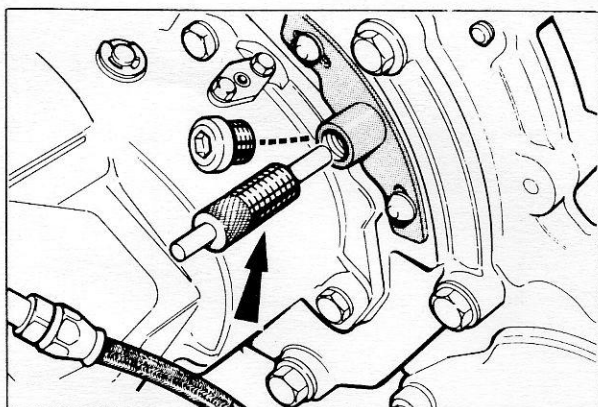

Fig. 56 - Injection Pump Timing
84. Remove the plug from the timing socket on the injection pump mounting flange (Fig. 56).